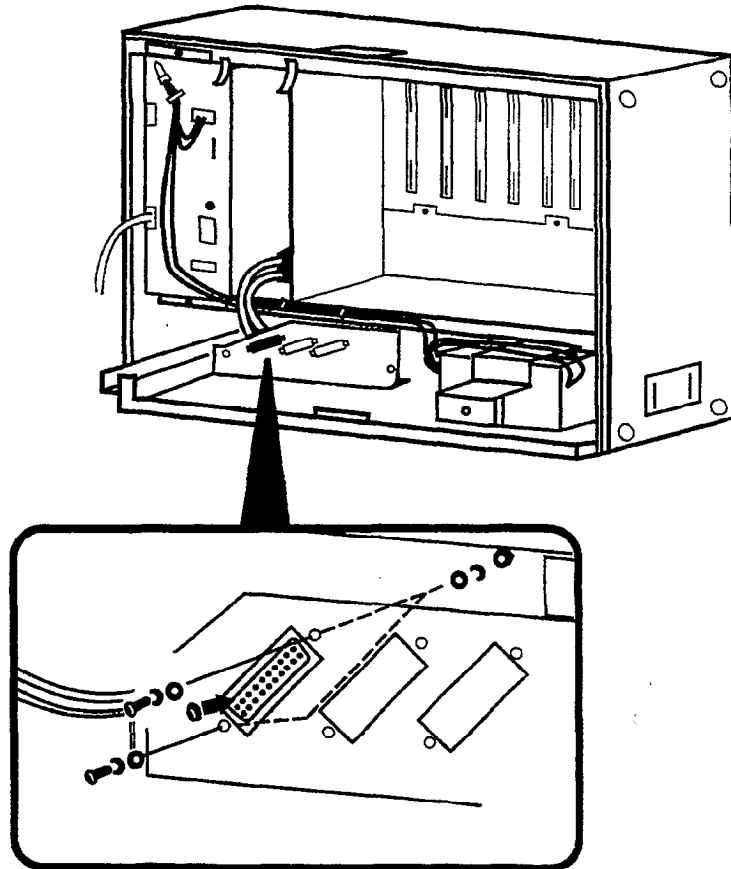

Figure 2-57
After installing the KTU, connect the RJ45 pin connectors to CN8 or CN7 into the MIF-F(S)-10 KTU. When connecting a PC, connect the small connector on the MIF Cable Assembly to CN10 on the MIF-F(S)-10 KTU, then remove the RS-232 connection bracket from the KSU and attach the RS-232, on the MIF Cable Assembly, to the RS-232 connection bracket using the screws on the RS-232 connectors. Refer to Figure 2-57 - Connecting the MIF Cable Assembly and the MIF-F(S)-10 KTU to the ESF-H-10 KSU.
3. Connect the MIF Cable Assembly to CN8 on the MIF-F(S)-10 KTU and the Basic KSU. Refer to Figure 2-57 - Connecting the MIF Cable Assembly and the MIF-F(S)-10 KTU to the ESF-H-10 KSU.
3. Connect the MIF Cable Assembly to CN7 and CN10 on the MIF-F(S)-10 KTU and the KSU. Refer to Figure 2-57 - Connecting the MIF Cable Assembly and the MIF-F(S)-10 KTU to the ESF-H-10 KSU.